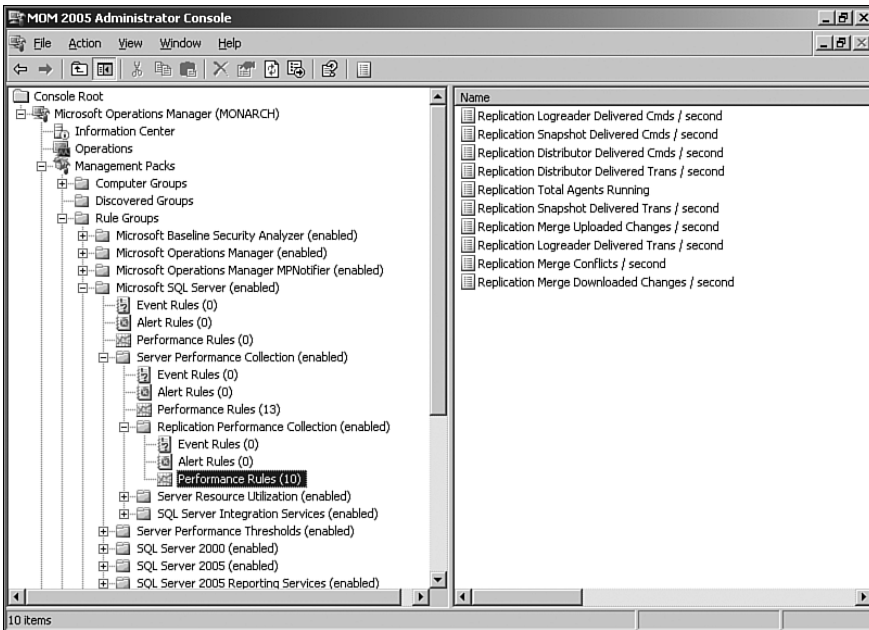

FIGURE 18.1 Replication performance rules.
4. The only rules in this rule group are the replication rules in the Performance Rules folder, which are displayed in Figure 18.1.